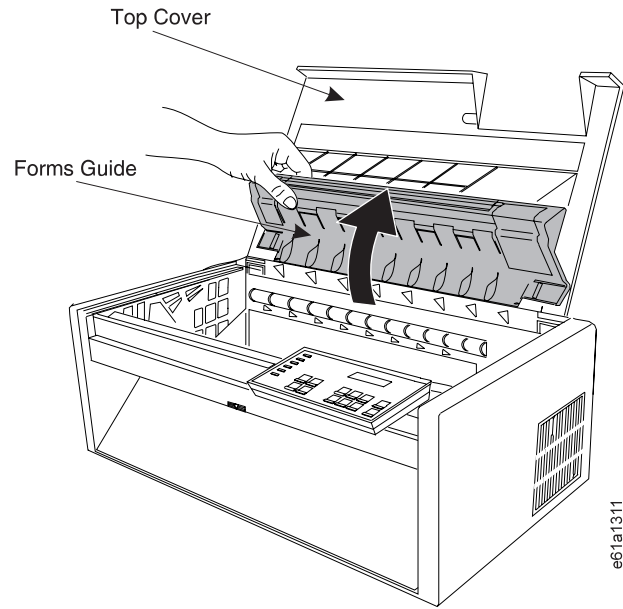

Figure 21. Forms Guide
2. Open the top cover and the forms guide (see Figure 21 on page 45).